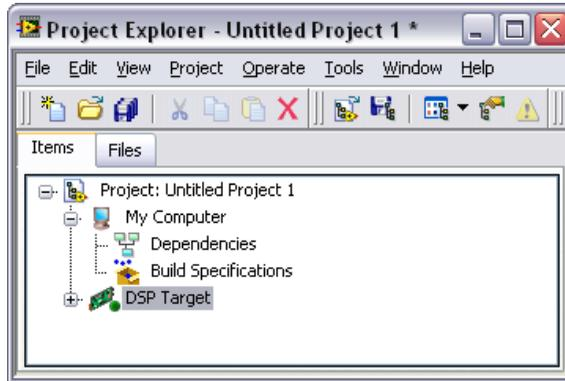

Figure 10. Renaming the Target in the Project
2. Enter `DSP Target` in the text box and press the <Enter> key to change the name of the target, as shown in Figure 10.